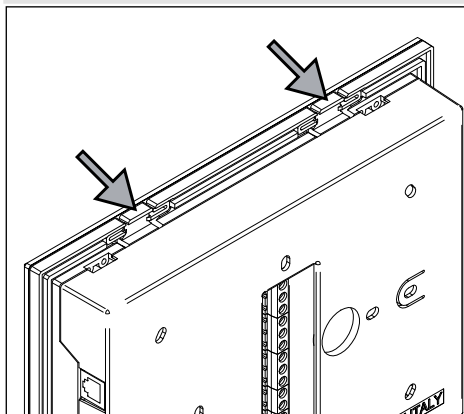
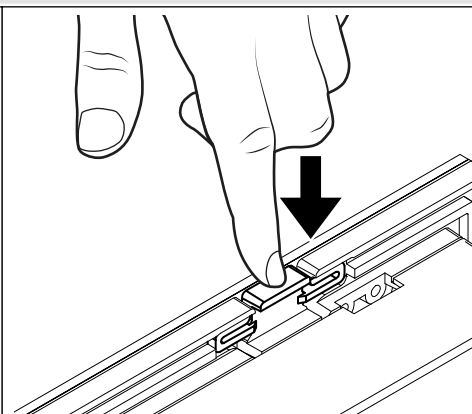
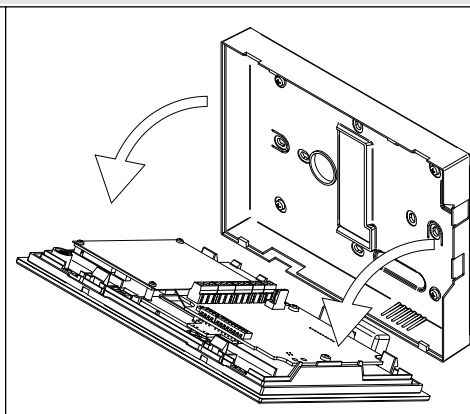

Fig. 1
Fig. 2
Fig. 3
1. To install the videophone, it is necessary to remove the back cover. Apply pressure to the two clips indicated by the grey arrows (**Fig. 1**) using fingers (**Fig. 2**) while lightly pulling the upper part in the direction of the white arrows (**Fig. 3**).
Art. KRV782 Videocitofono Vivavoce 7" per sistemi digitali VX2300**Fig. 1** Fronte**Fig. 2** Retro**DESCRIZIONE**